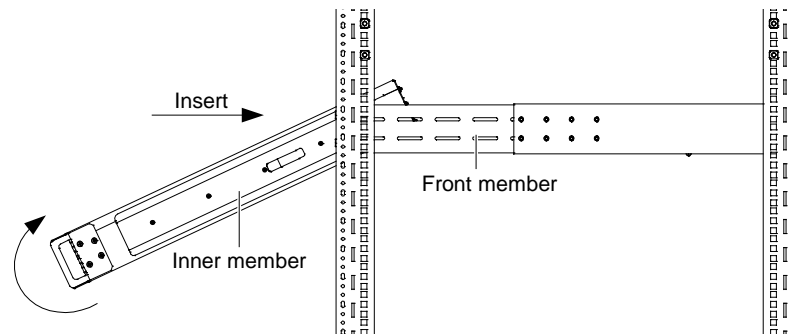

Figure 5-9 Inserting the UPS
9. Insert the equipment, with inner members attached in Step 7, into the bracket assemblies by inserting the top and bottom edges of the inner members into the top and bottom curved tracks of the front members and sliding the equipment into the rack (see Figure 5-9). Ends of inner members are tapered to allow the rear of the equipment to be angled upward before insertion, if space allows.
Then the rear, bottom edges of the inner members can be placed into the front edge of the bottom tracks and the front of the equipment can be tipped up so they are level to insert the top edges of the inner members before sliding the equipment into the rack (see Figure 5-9). The equipment should move smoothly into the bracket assemblies. If it does not, recheck the alignment of the front and rear members from Steps 4 and 5.